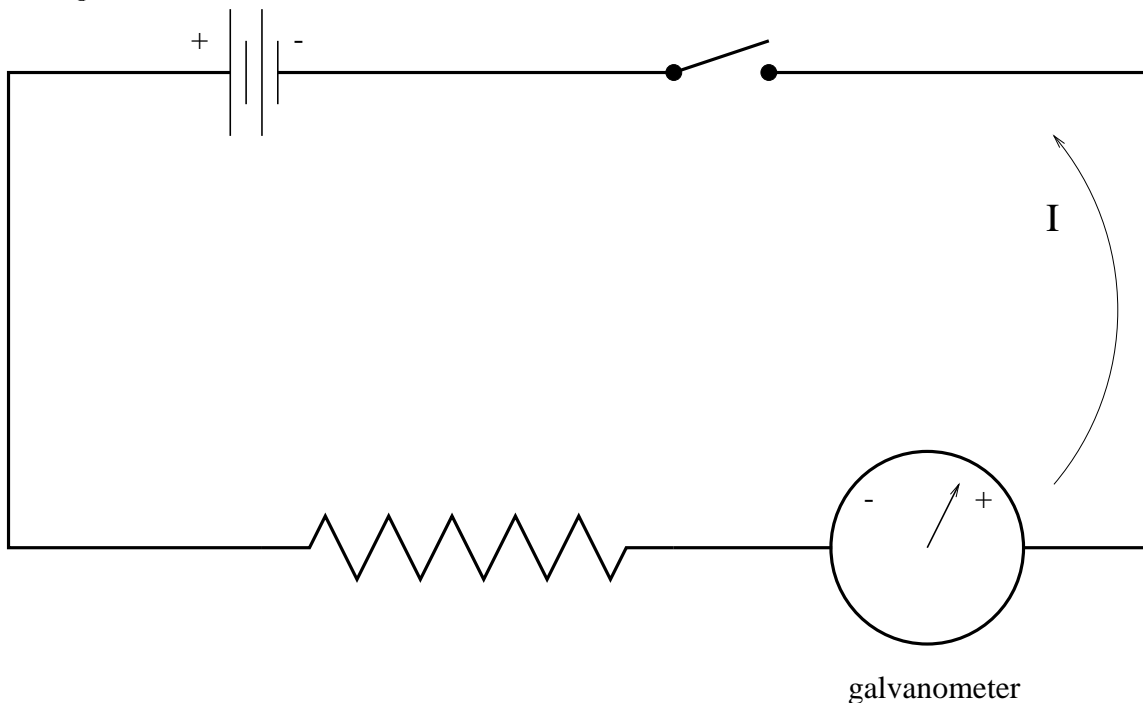

FIGURE 1
1. In order to determine the direction of induced current flow, you must first determine the direction of the galvanometer needle deflection corresponding to a known current direction. Connect the circuit shown in Figure 1. You know that current flows from positive to negative potential; record the direction of current flow through the galvanometer and the corresponding direction of needle deflection. You will need this information throughout the lab, so please be certain that you understand this before moving on.